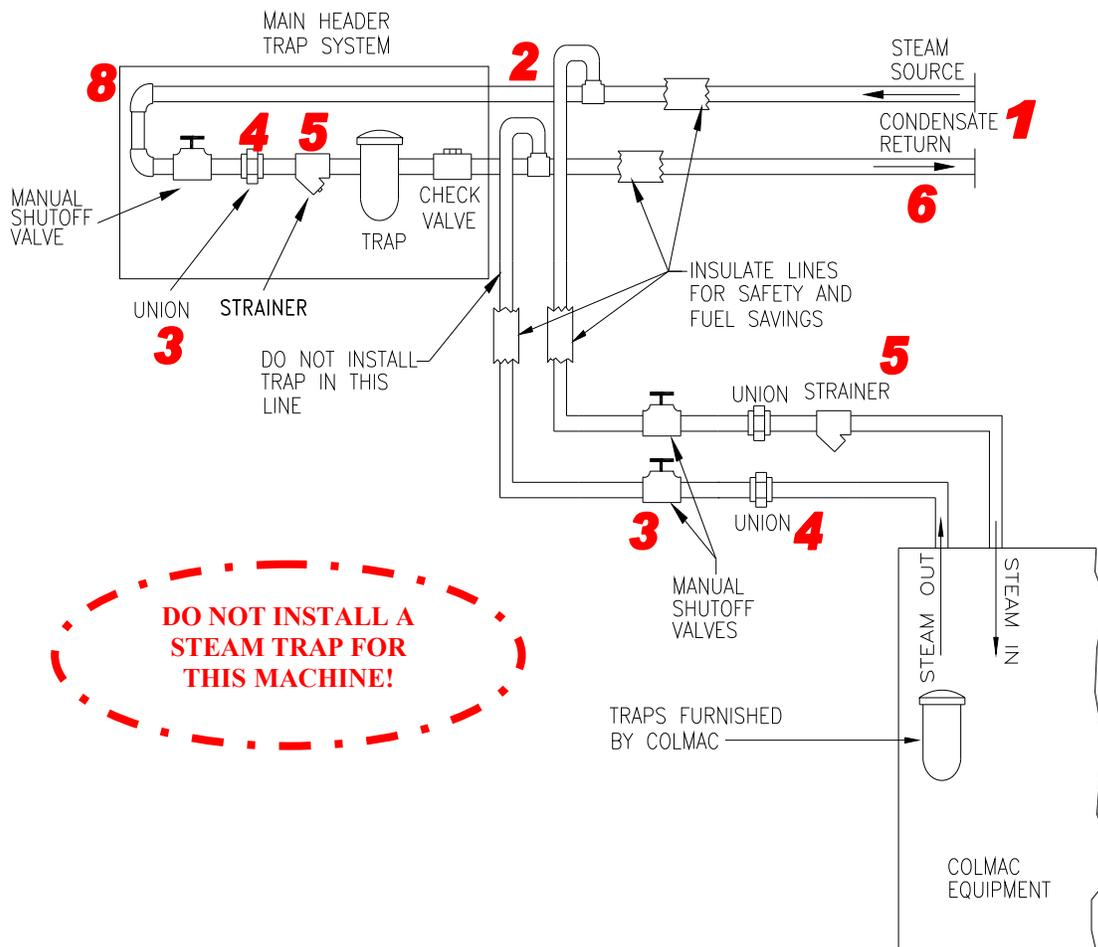

Figure 7
The steam and return system connections are very important. Poor steam quality or incorrect connections directly affect its performance. (Reference Figure 7)
1. To insure adequate steam supply, the steam line should be 1-1/2" (38mm) or larger and the return line should be 3/4" (19mm). The factory recommends the larger supply sizes to compensate for line loss. Since the machine is equipped with steam traps, no additional traps are required. Never put one (1) trap in line with another, as the traps will no longer function. Be sure to check all steam connections for leaks. A strainer should be put into the steam line. All steam lines should be insulated to prevent loss of heat and possible injury to personnel.
2. **Supply Line:** Connect the steam line to the top of the steam headers as shown in Figure 7 to insure a clean, dry steam supply.
3. **Shut-off valves** installed ahead of the union and strainer on the "steam-in" and "steam-out" lines and between the union and return header on the "Main Header Trap System" (8), will simplify shut-off for repair and maintenance. "Ball" or "Gate" type valves are recommended for maximum flow.